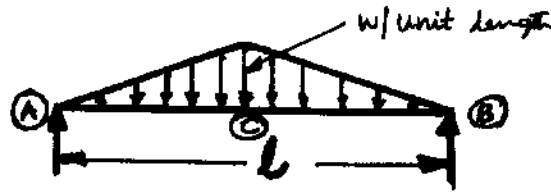

Fig. Q5
- 5 Draw the bending moment and shear force diagrams for the beam shown in Fig. Q5 below: (20 Marks)